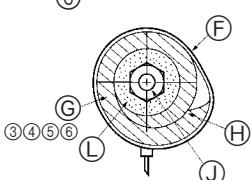
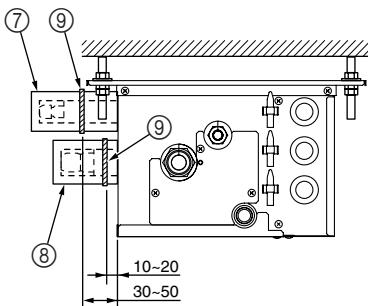

Fig. 7-3
Fig. 7-4
⑥ Section of connection (Fig. 7-3)
⑦ Band ⑨
⑧ Pipe covers ③ ④ ⑤ ⑥
⑩ Tighten
⑪ Thermal insulation for refrigerant piping
⑫ Refrigerant piping
► Use the following procedures for indoor connection part which indoor unit is not connected. (Fig. 7-4)
- (1) In order to prevent refrigerant leaks, make sure that the flare nuts are tightened according to the specified torques\* in Table 3.